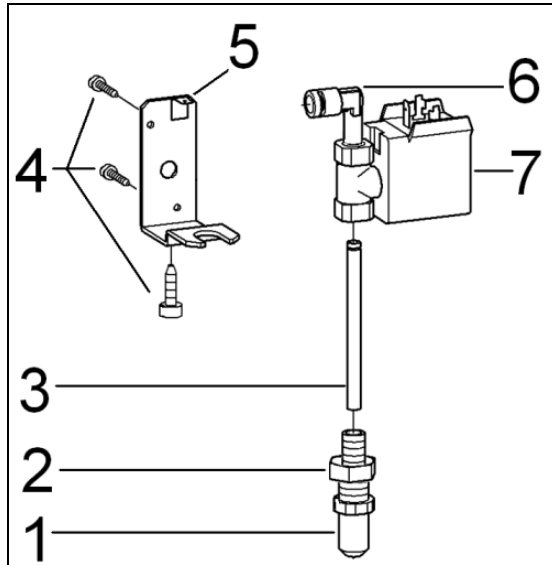

Figure 5-19: Hot-Water Valve Components
3. Loosen the nut (Figure 5-19, Item 2).
4. Remove the screws securing the mounting bracket to the rear door panel (Figure 5-19, Item 4).
5. Remove the mounting bracket (Figure 5-19, Item 5) and disconnect the ground wire.
6. Unscrew the sleeve (Figure 5-19, Item 1) from the connector (Figure 5-19, Item 6).
7. Pull out the hot-water nozzle (Figure 5-19, Item 3) from the connector.
3. Disconnect the connections from the hot-water valve (Figure 5-19, Item 7).
5. Separate the hot-water valve from the connector (Figure 5-19, Item 6).